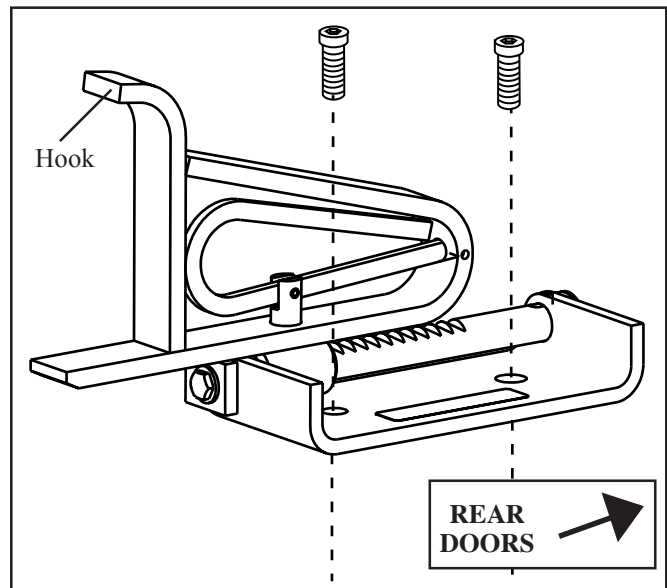

Figure 1 - Mounting the Rear Hook
1. Place the rear hook on the ambulance floor with the hook facing the antler (away from the rear doors as indicated in Figure 1).